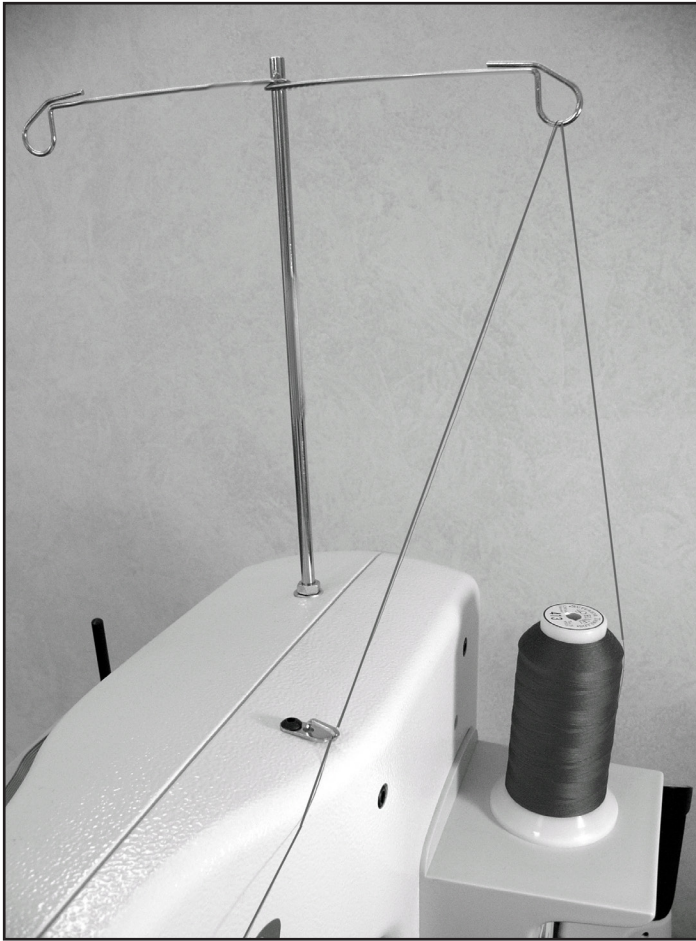

Figure 5
**NOTE:** The eyelets of the thread antennae *MUST* be centered over the spool pins. This ensures that the thread cone will not pull, turn or tilt, which will cause thread tension problems (see Figure 5).